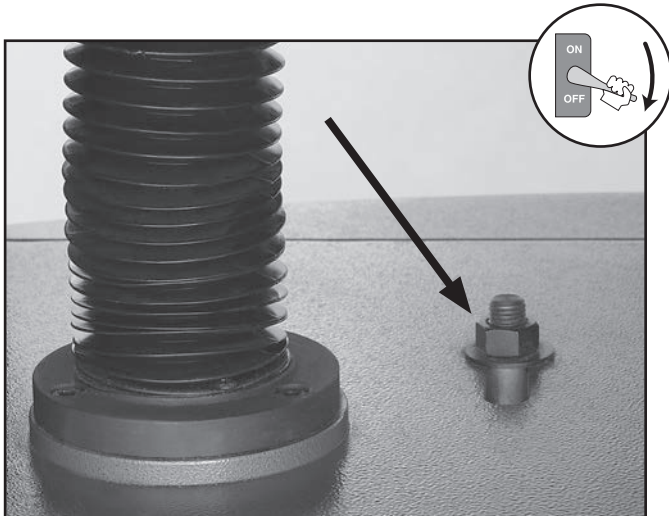

Figure 31. Table chain idler hex nut.
3. Loosen the hex nut holding the idler assembly (see **Figure 31**).